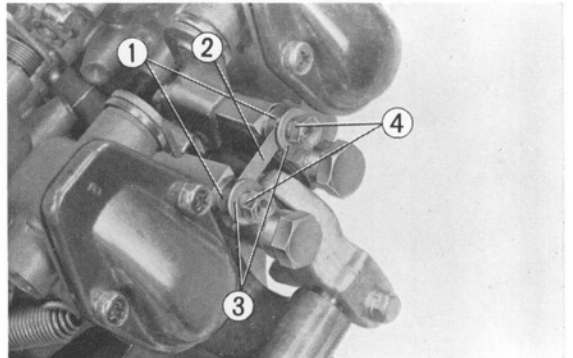

Fig. 193 ① Special washer D ③ Washers
② Dust plate B ④ Nuts
13. Install and route the two fuel tubes as shown in Fig. 193.